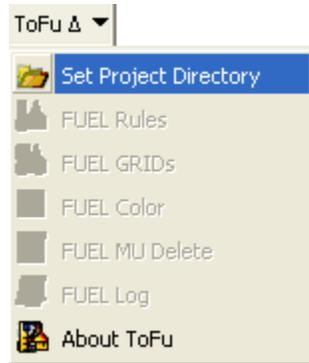

Figure 6-2. Use drop-down menu to **Set Project Directory**.
- First, use the ToFuΔ toolbar to set your working directory by clicking on the **Set Project Directory** option as shown below (fig. 6-2).